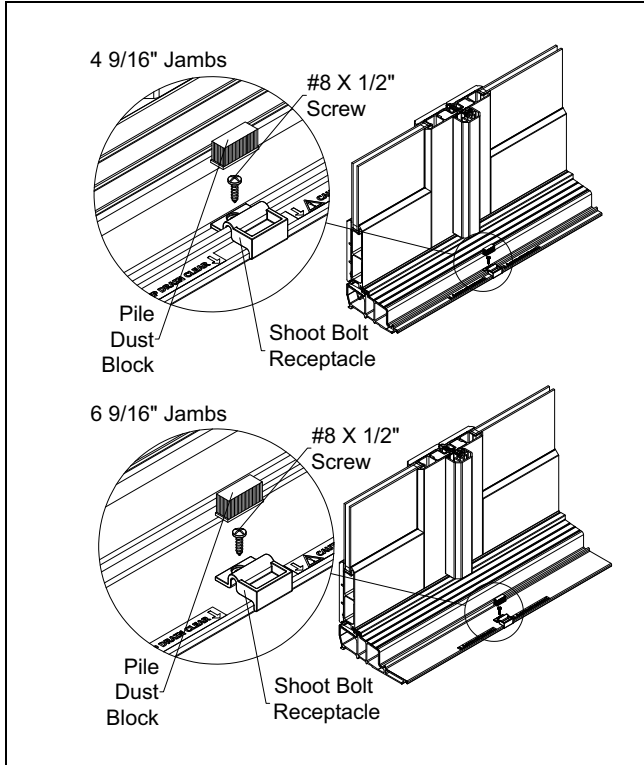

Figure 6
4. Install the shoot bolt receiver on the sill location (depending on jamb depth). Close the screen panel with the astragal and mark the shoot bolt location. Center the receptacle to the mark and fasten the receptacle to the front edge of the sill with the #8 X 1/2" stainless steel screw provided. See figure 6.